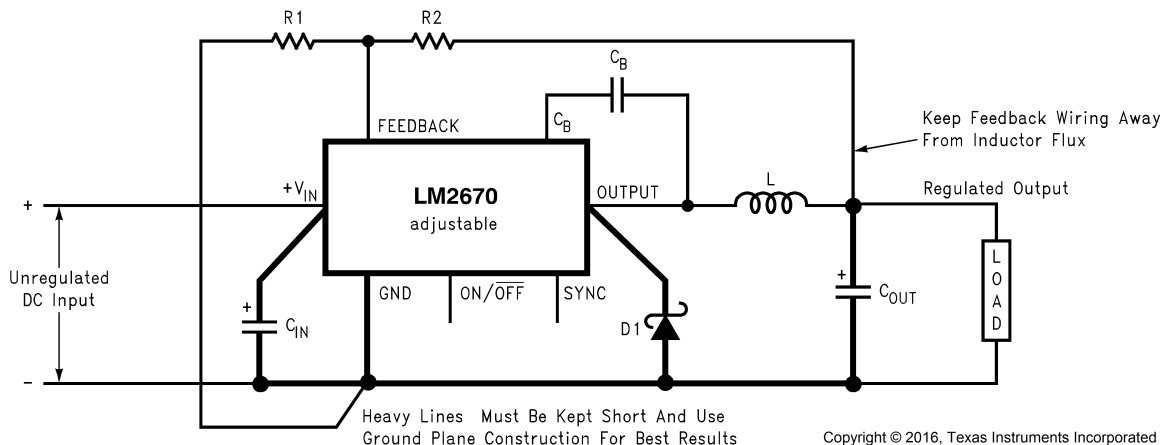

Figure 22. Basic Circuit for Adjustable Output Voltage Applications
Step 2: Select an LM2670S-ADJ. To set the output voltage to 14.9 V, two resistors need to be chosen (R1 and R2 in Figure 22). For the adjustable device the output voltage is set by the following relationship: